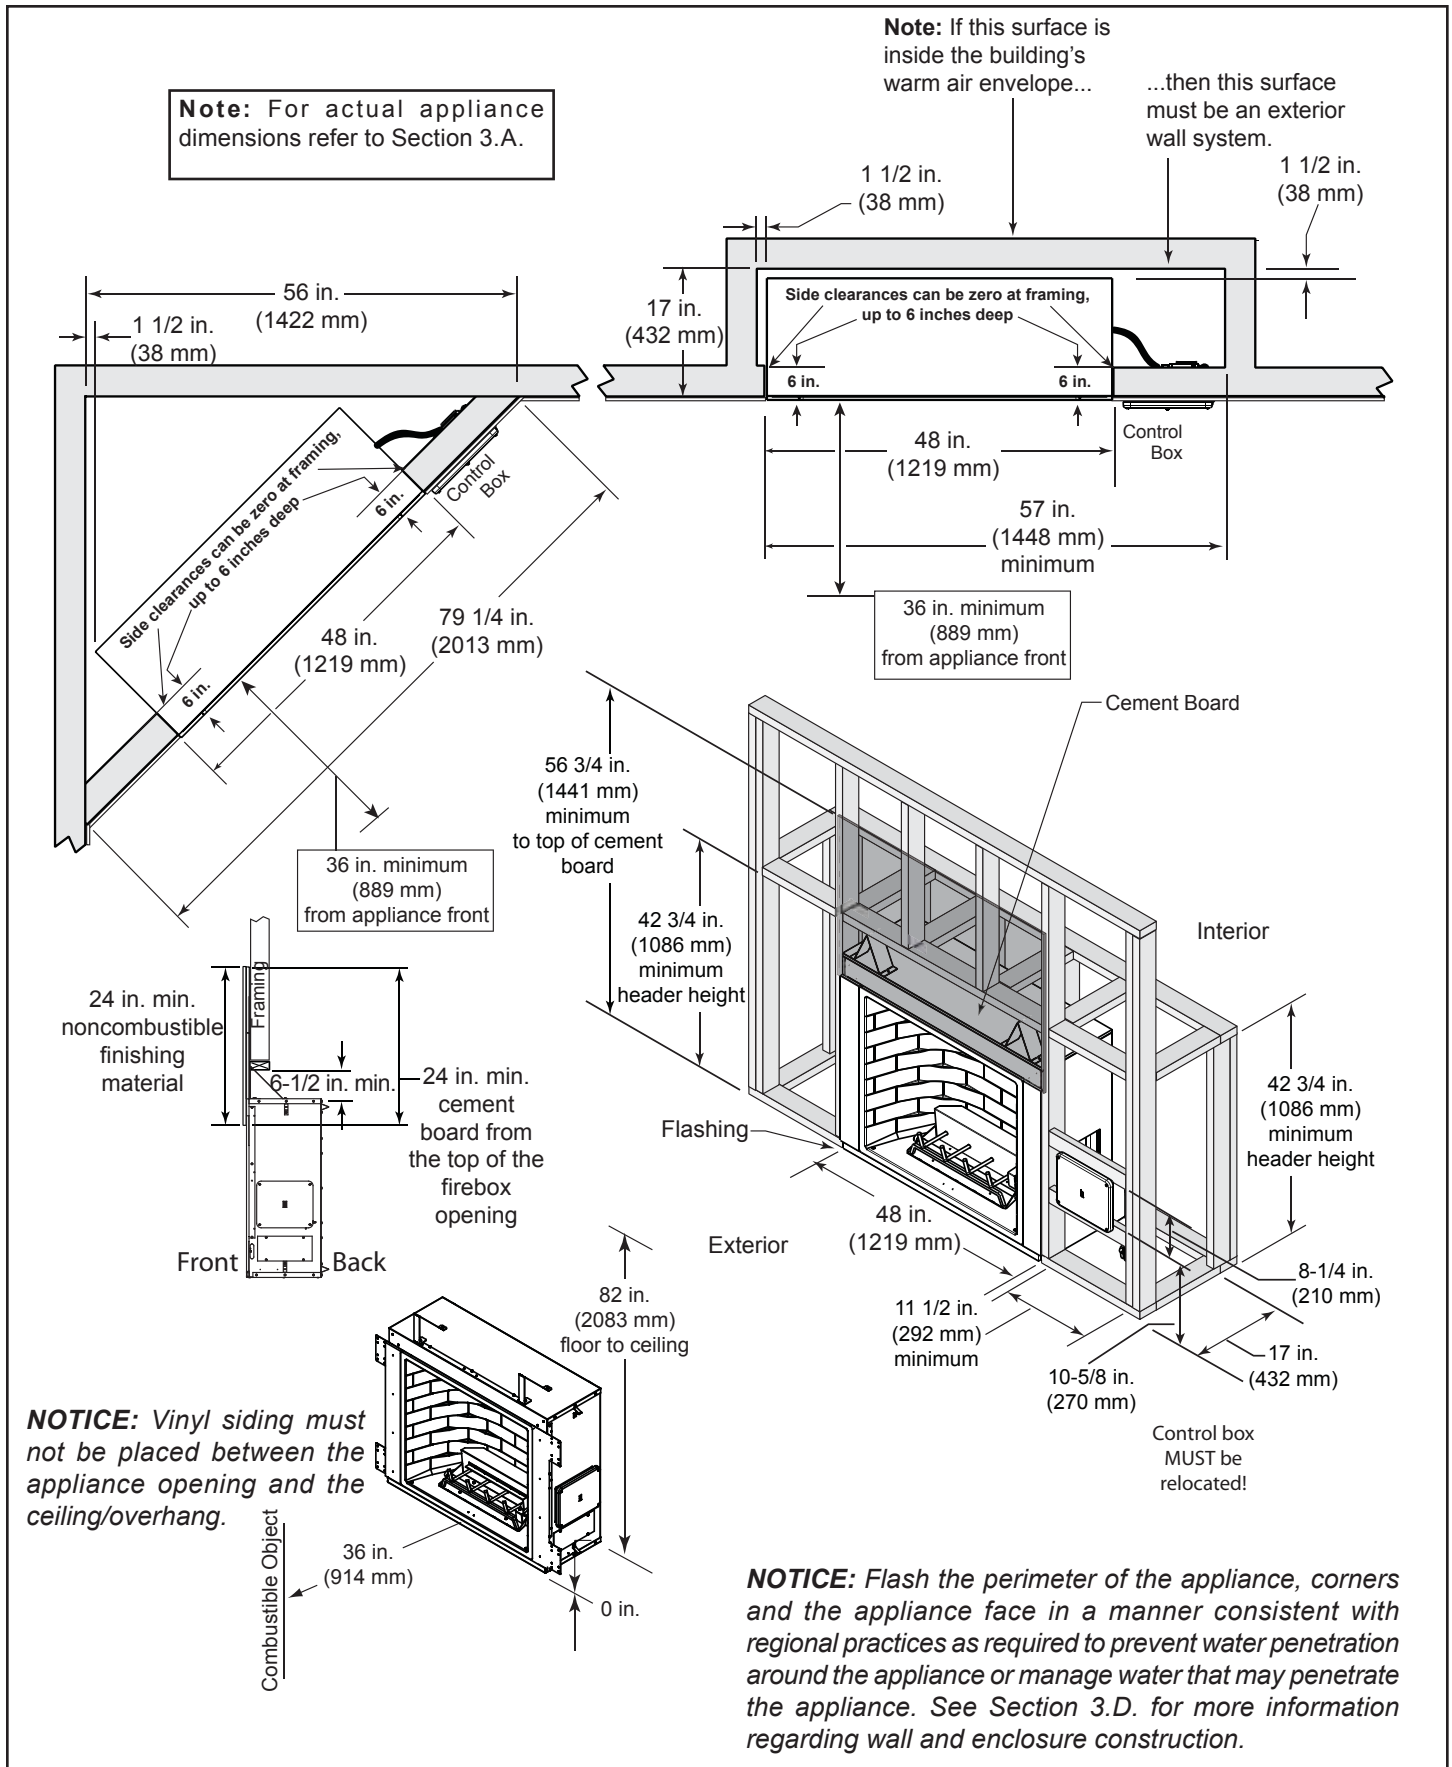

Figure 3.3 Appliance Locations and Framing Dimensions - CARODG36I-B
- • See Figure 3.3, Figure 3.4 and Figure 3.5 for required clearances.
- See framing measurements in Figure 3.3 and 3.4.
- You must maintain 1 ½ in. (38mm) air space at the back and sides (except the first 6 inches from the front can be zero to the framing). See Figures 3.3 and 3.4.